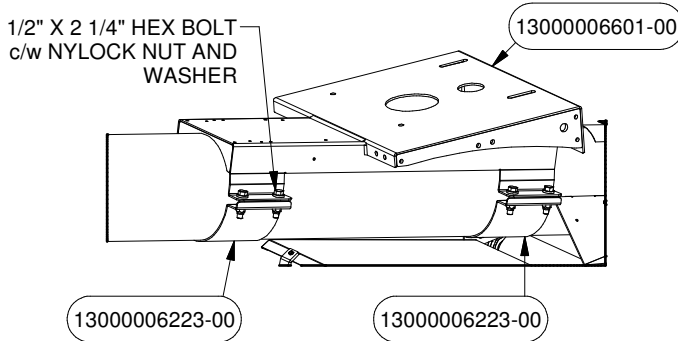

FIGURE 22
1. Attach the Motor Mount PN# 6601 and Clamps PN# 6223 using Hex Bolts c/w Nylock Nuts and Washers to the Intake PN# 5810. See Figure 22 for details. Take note that the Motor Mount should be right against the Bottom Return.